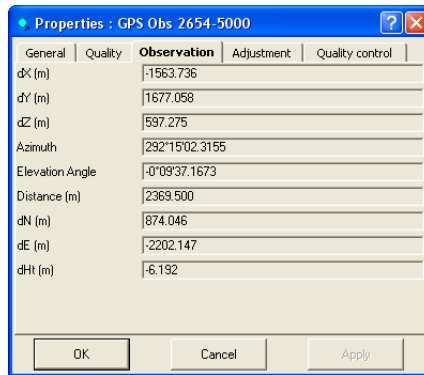

Figure 5-107. Observation Properties
- View *Observation* tab fields which contain fields for viewing the vector solution type (dX,dY,dZ, Azimuth, Elevation Angle, Distance, dN,dE,dHt) (Figure 5-107).